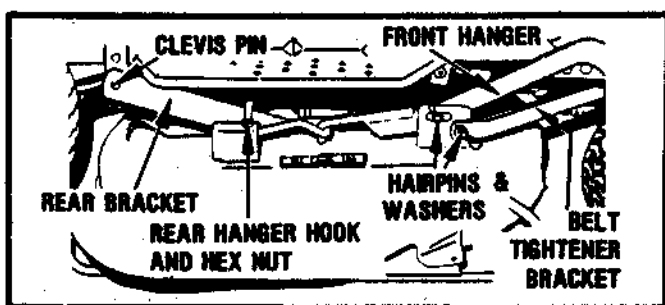

FIGURE 12
REMOVAL OF MOWER PAN — FIGURES 12 & 14
- Lower the mower pan and remove the hairpin cotters and washer. The two pins and washers on the front secure the mower pan to the front hangers and can be disconnected to free the front of the pan. The other two pins and washers join the front of the pan to the belt tightener bracket. Loosen the hex nuts and turn the rear hanger hooks to the side to free them from the rear hangers. See Figure 12.
INSTALLATION OF MOWER PAN — FIGURES 12 & 13
MOWER PAN LEVELING — FIGURES 12, 14 & 18
- If adjustment is required, turn the hex nuts on the rear hanger hooks to move the hooks up or down to secure the proper adjustment. When the pan is leveled and hangs evenly, tighten the hex nuts securely. See Figure 12.